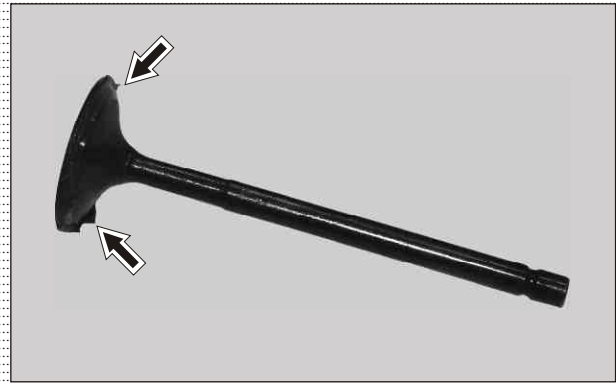

Fig. 3.150
- Apply lapping compound uniformly right round the valve face. (Fig. 3.150)